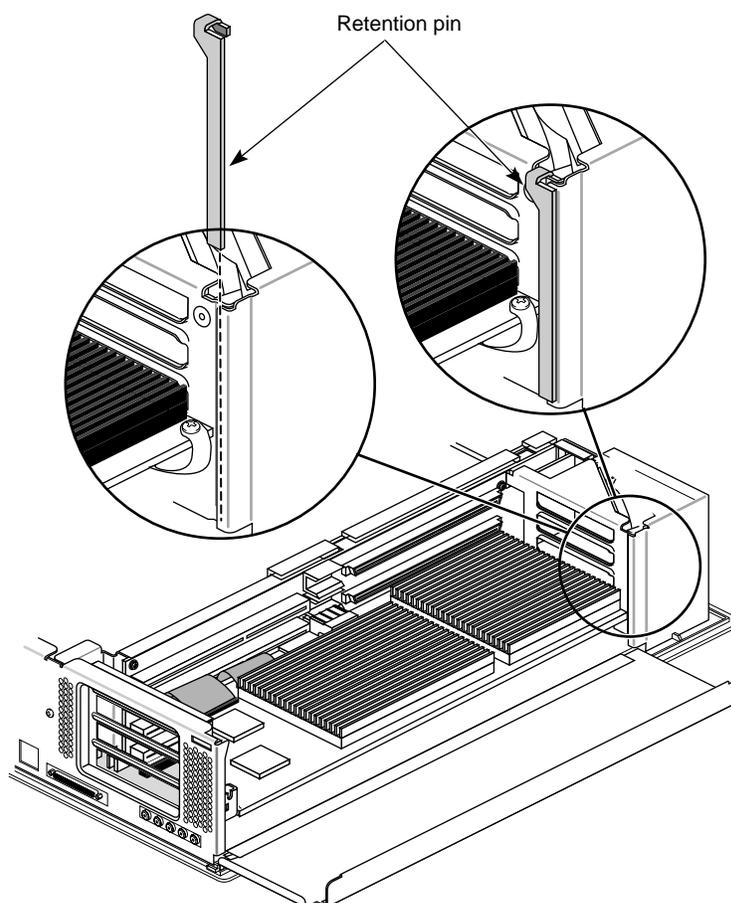

Figure 1-8 Removing the Retention Pin
- Grasp the retention pin on the right-front end of the board set and pull it up and off. See Figure 1-8.